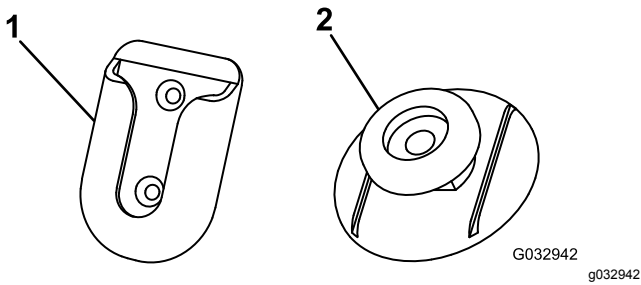

Figure 21
3. Clean the back of the swivel mount (Figure 21) with the alcohol wipe and then dry it.
7. Remove the backing from 1 side of the adhesive and apply it to the back of the mounting tab (Figure 21).